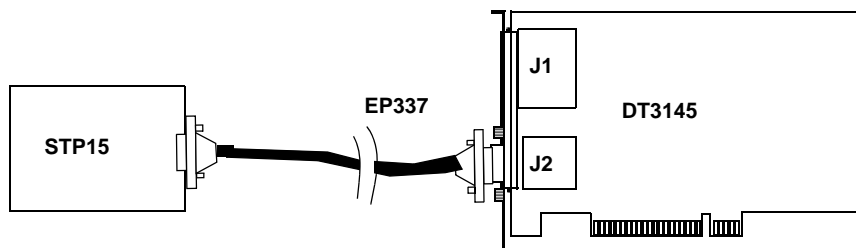

Figure 5: Connecting the STP15 to the DT3145 Board
3. Push the other end of the EP337 cable into the STP15 screw terminal panel, and tighten the screws on the connector. Refer to Figure 5.